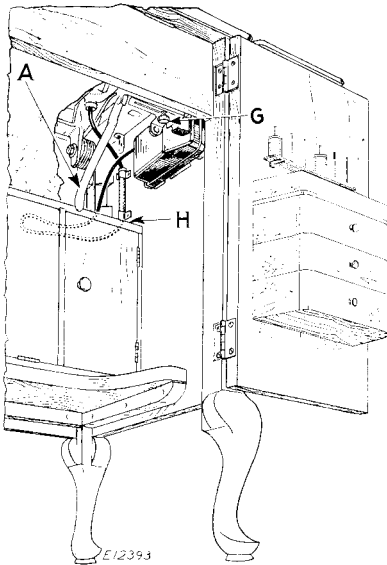

FIG. 6. BAKELITE CONTROLLER ARRANGED FOR KNEE CONTROL IN CABINET 48
Place the slack controller lead to the rear on the shelf of the cabinet, as shown at (H) in Fig. 6, no hook being required to hold the slack lead.